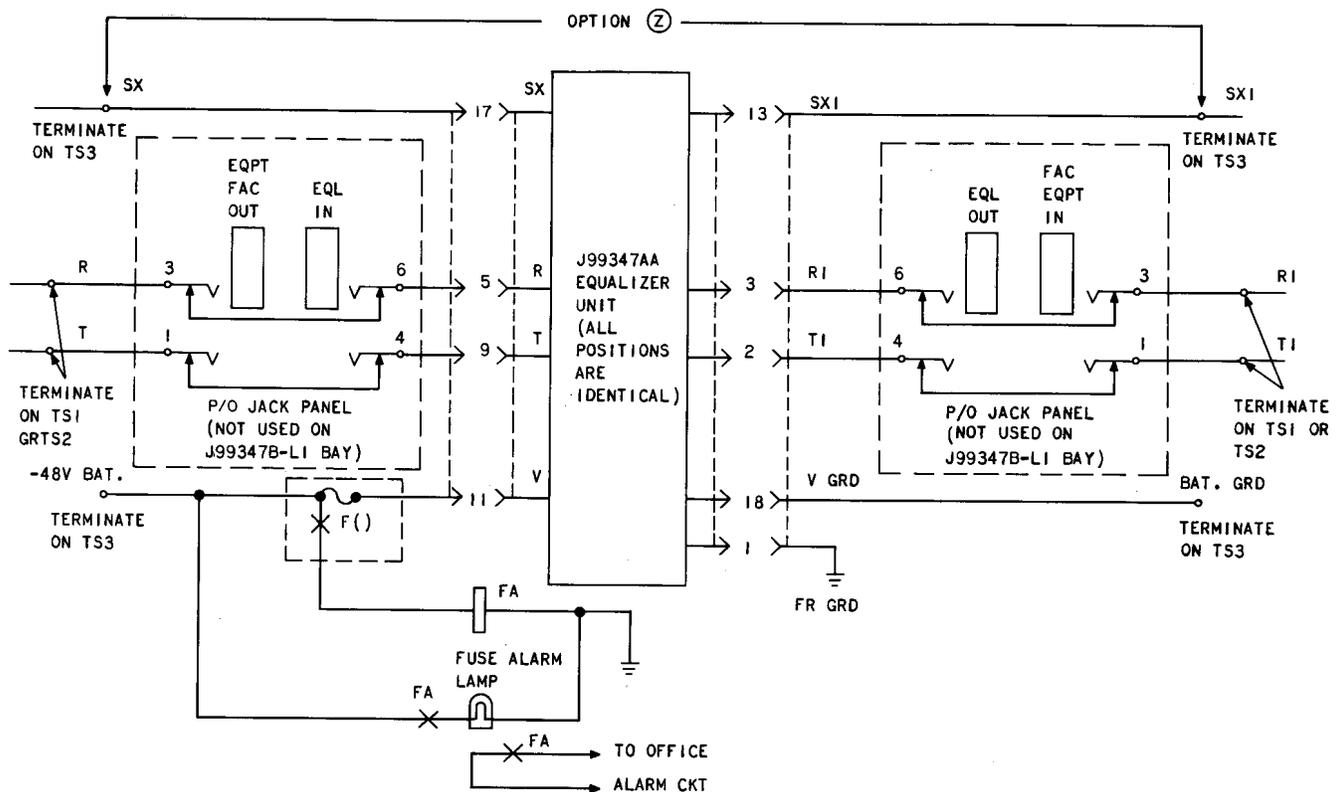

Fig. 6—Typical J-99347C-L1 J-Board Shelf Position Circuit
**3.11** A simplified sketch illustrating some typical factory-wired connections and signal paths into and out of a J-board shelf is shown in Fig. 6. Similar to the J-board bay, a fuse failure to a J-board equalizer position will energize a minor alarm in the office alarm circuit and illuminate
- (e) The jack connections shown in Fig. 6 are included as part of the J-board shelf. Similar jack connections will be available on the J-board bay at each equalizer position when using the J98614TA test extender.